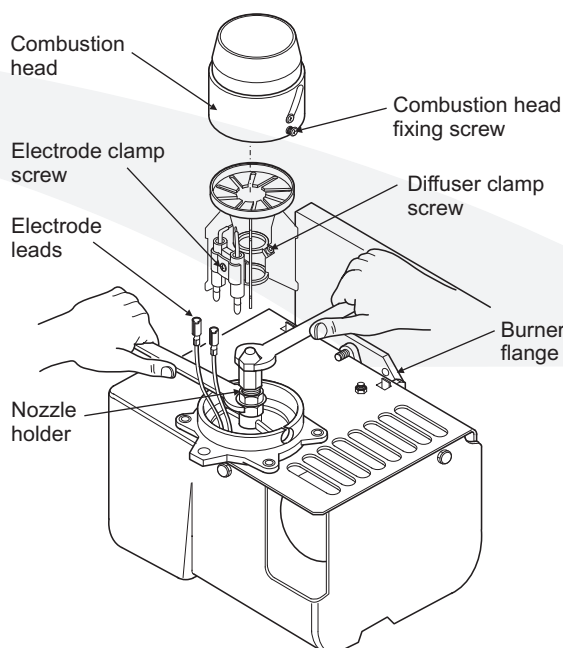

**Figure 11-6:** 15/21, 15/26, 26/36, 36/46 electrode settings
8. Always check the electrode settings after replacing the nozzle, see Figure 11-6.